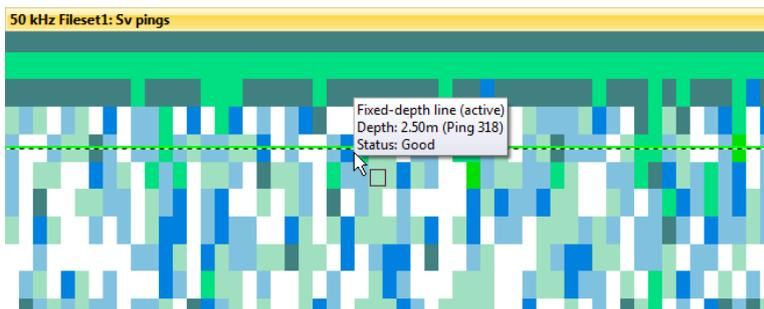

Figure 18: Echogram showing “Fixed-depth line” at a depth of 2.5 meters.
26. Click **OK** to close the **New Editable Line** dialog box and to see the *Fixed-depth line* on the echogram (Figure 18).